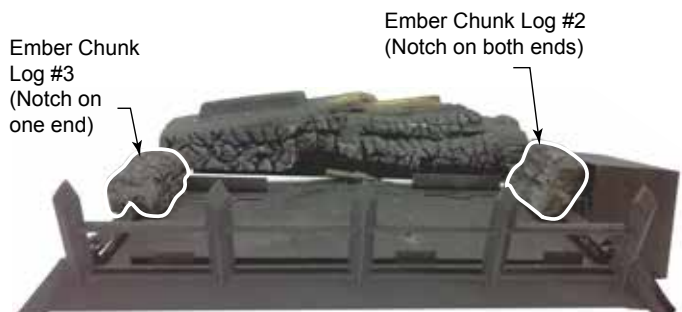

Figure 28
- Place the ember chunk (#2) with notch on both ends on the grate bar right side of the burner adjacent to the controls. Push towards rear as far as possible. *Figure 28*
- Place the ember chunk (#3) with notch on one end on the grate bar left side of the burner with notch towards rear. Push towards rear as far as possible. *Figure 28*